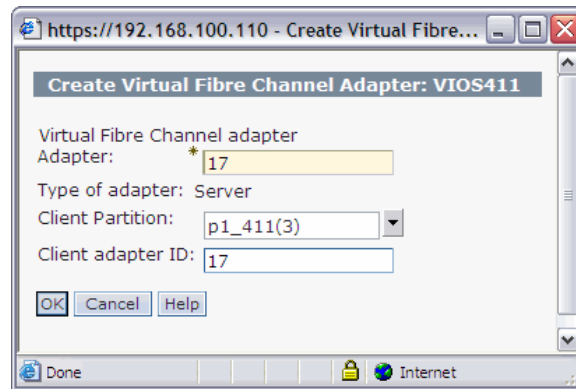

Figure 7-4 Set virtual adapter ID
- d. Enter the virtual slot number for the Virtual Fibre Channel server adapter, then select the client partition to which the adapter may be assigned and enter the client adapter ID, as in Figure 7-4. Click **OK**.